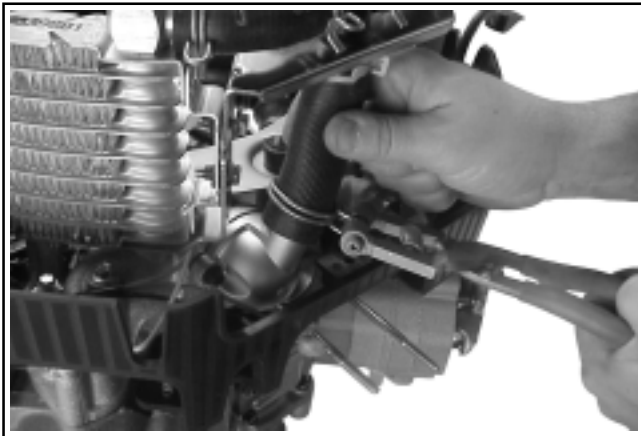

Figure 11-74. Installing Clamp on Thermostat.
- Set the radiators and cooling system, with the hoses attached, down into its general position. Connect the hoses to the inlet of the water pump, and the outlet of the thermostat housing. Secure each connection with the respective hose clamp. The tangs must be positioned outward. See Figure 11-74.